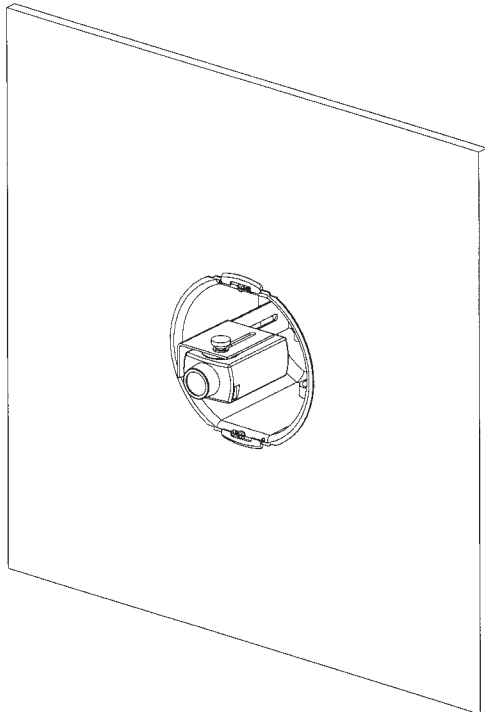

Figure 1
4. Install box into pre-cut tile with the bottom flange, then press against the tile. Position the round section of the box in the direction that the camera will be aimed. See **Figure 1**.